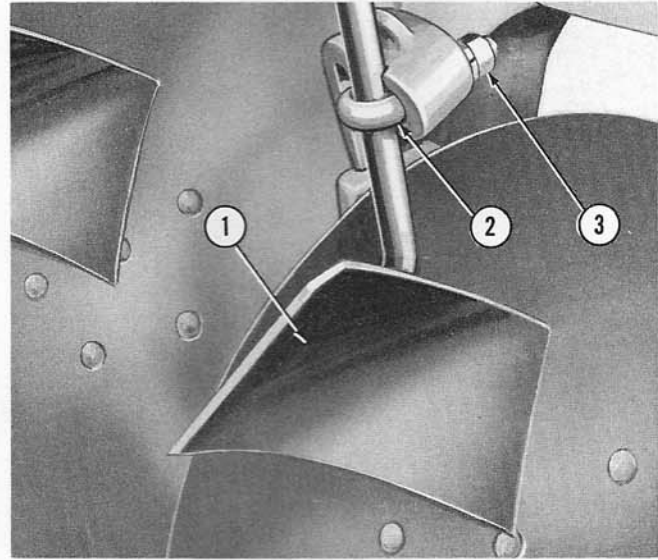

Figure 8
The hoe type scrapers shown in Figure 8, can be adjusted to suit the particular soil and operating conditions encountered. Loosen the nut (3) on the eye bolt (2) and raise or lower the scraper (1) until the proper setting is obtained.